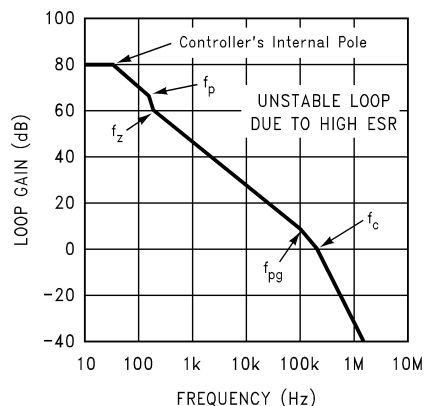

Figure 29. High ESR Unstable without Feed-Forward
**HIGH ESR:** To illustrate the effect of an output capacitor with high ESR, the previous example will be repeated except that the ESR will be **increased** by a factor of 20X. This will cause the frequency of the zero  $f_z$  to **decrease** by 20X, which moves it from 5 kHz down to 250 Hz (see Figure 29).
The effect of gate capacitance becomes most important at high values of ESR for the output capacitor (see Figure 29). Higher values of ESR increase  $f_c$ , which brings  $f_{pg}$  more into the positive gain portion of the curve. As  $f_{pg}$  moves to a lower frequency (corresponding to higher values of gate capacitance), this effect becomes even worse.